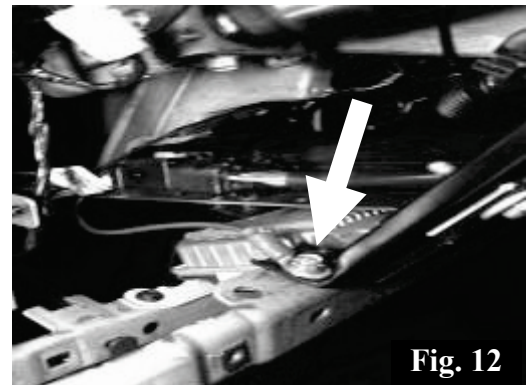

Fig. 12
27. Remove the bolt securing the support brace under the steering column and connect the ground wire as shown in Fig. 12. Torque to 8Nm.